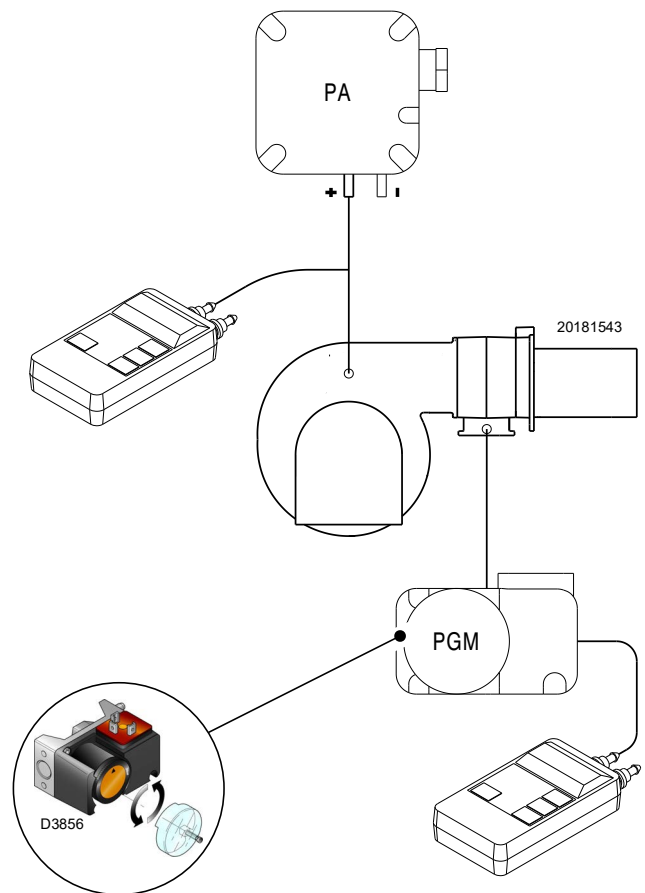

Fig. 37
- Adjust the maximum gas pressure switch (Fig. 37) to the end of the scale.
Adjust the maximum gas pressure switch (Fig. 37) after making all other burner adjustments with the maximum gas pressure switch set to the end of the scale.